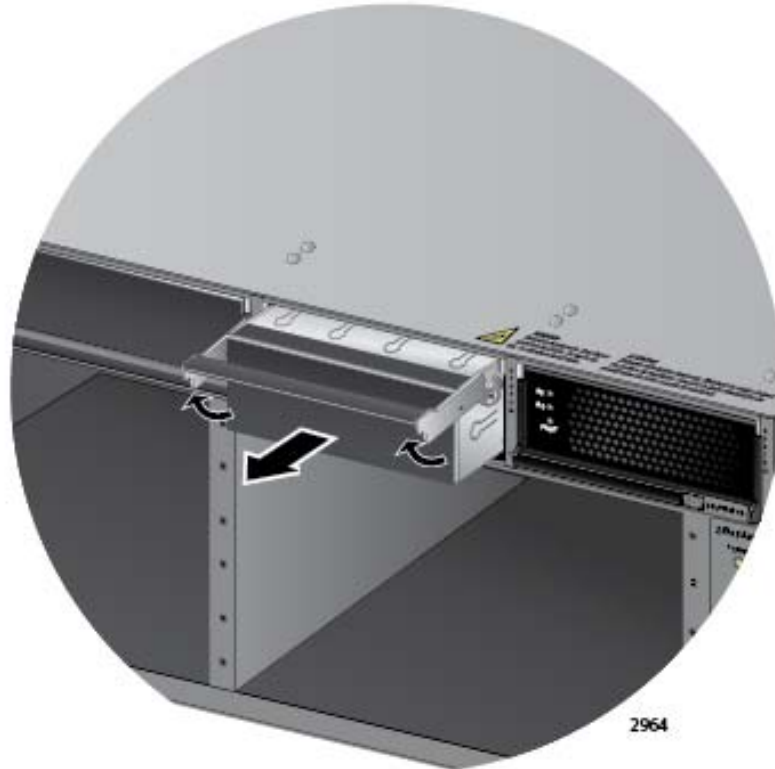

Figure 61. Removing the Blank Slot Cover from Power Supply Slot C
2. If the chassis already has a power supply in slot D, remove the blank power supply panel from slot C by lifting the blank panel handle and sliding it out of the slot, as shown in Figure 61.